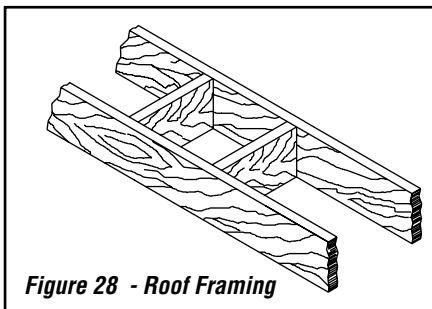

Figure 28 - Roof Framing
1. Cut and frame the holes in the ceiling, floor and roof where the chimney will pass (see **Figure 28**). Use a plumb-bob to line up the center of the holes. The sizes are indicated in **Table 2** for the floor and ceiling holes and **Table 3 (Page 19)** for the roof holes.